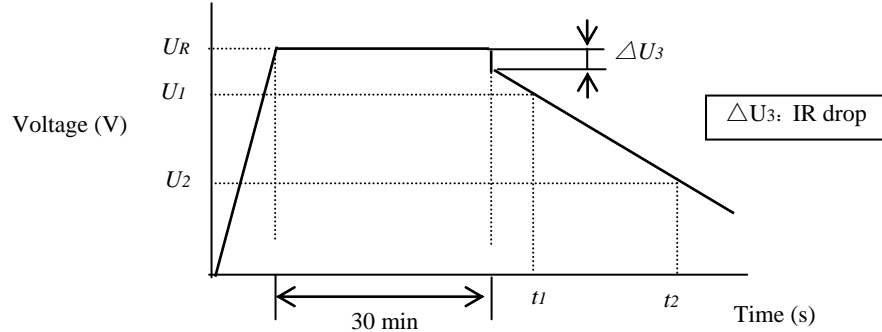

Figure 2- Voltage characteristic between capacitor terminals
3.2	<p><Condition> Constant current discharge method: Measuring circuit:</p>  <p style="margin-left: 20px;">Constant current / constant voltage power supply</p> <p style="margin-left: 20px;">Constant Current Discharger</p> <p>Key</p> <ul style="list-style-type: none"> A d.c. ammeter V d.c. voltmeter S changeover switch Cx capacitor under test <p style="text-align: center;">Figure 1- Circuit for constant current discharge method</p> <p>Measuring method</p> <ol style="list-style-type: none"> a) Set the d.c.voltage at the rated voltage (U_R) b) Set the constant current value of the constant current discharger to the discharge current specified in Table 1. c) Turn the switch S to the d.c.power supply ,apply voltage and charge for 30 min after the constant current / constant voltage power supply has achieved the rated voltage. d) After a charge for 30 min has finished ,change over the switch S to the constant current discharger ,and discharge with a constant current. e) Measure the time t_1 and t_2 where the voltage between capacitor terminals at the time of discharge reduces from U_1 to U_2 as shown in Figure 2 ,and calculate the capacitance value by the following formula: